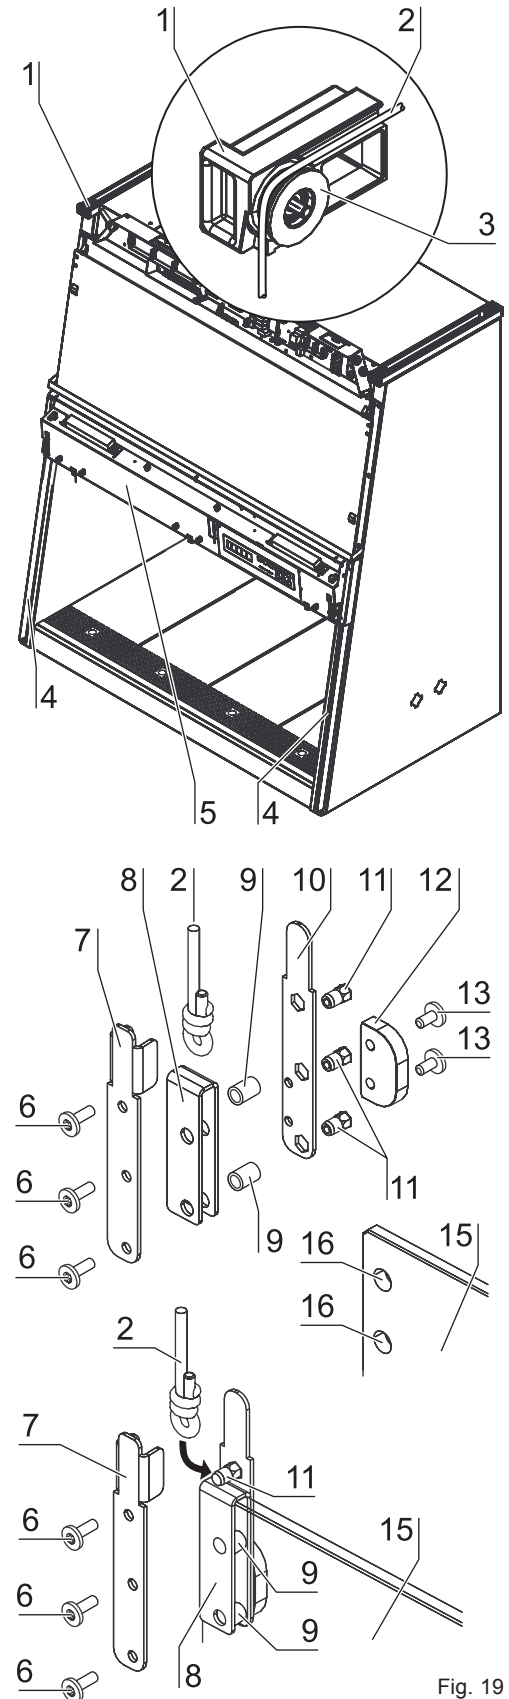

Fig. 19
1. **Fig. 19:** Insert the hose sleeves [9] into the holes [16] of the front window [15].
8. **Fig. 19:** Check to see if the slide seals [4] are in acceptable condition and replace the seals as required.